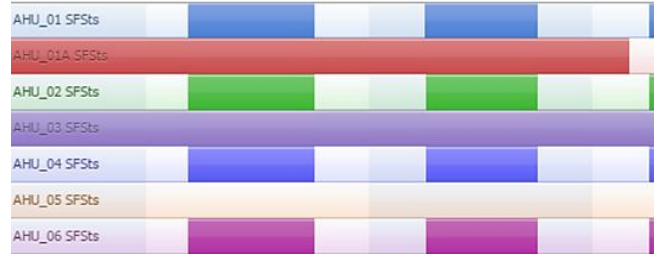

FIGURE 4. VISUALIZATION OF EQUIPMENT STATUS
Large buildings, campuses, and portfolios can have large quantities of equipment that are difficult to track. Monitoring the operation of each detailed component is often not feasible. Using software makes it possible to look at **100% of equipment**, including zone devices. At the zone level, rules can be used to detect common issues across hundreds of devices. FIGURE 4 displays the status of air handling units (AHUs) in a building that has (32) AHUs. As can be seen by the colored bars in the figure, software was able to detect (2) units operating 24/7 and (1) unit not operating leaving occupants without ventilation. Even basic on/off status can be difficult to detect for dozens of devices without assistance from software.